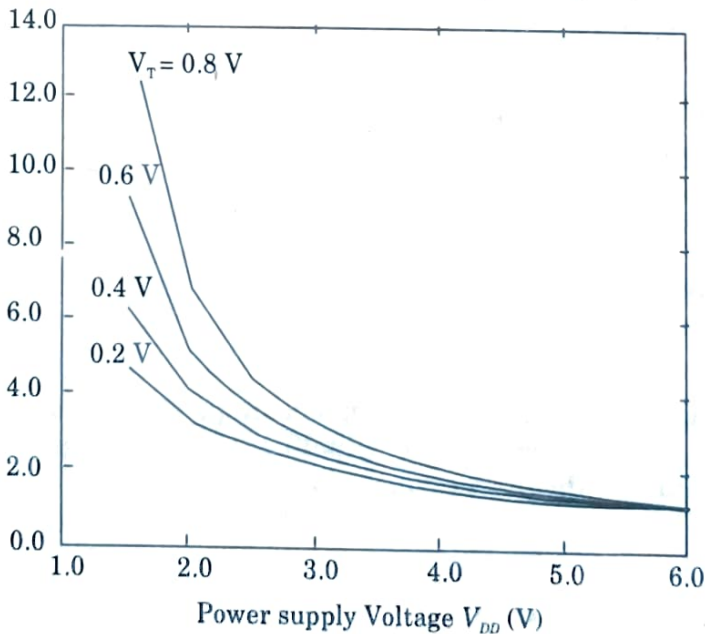

Fig. 4.18.1. Variation of the normalized propagation delay of a CMOS inverter, as a function of the power supply voltage V_{DD} and the threshold voltage V_T .
6. As shown in Fig. 4.18.1 reducing the threshold voltage from 0.8 V to 0.2 V can improve the delay at $V_{DD} = 2$ V by a factor of 2.